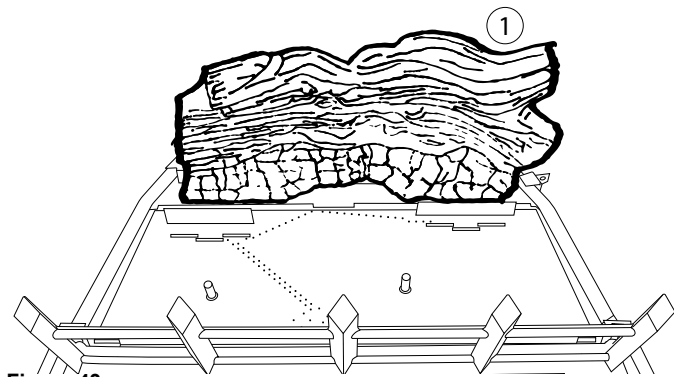

Figure 43.
1. Place the rear log (#1) on the rear pins located on the log support bar. (See Figure 43.)